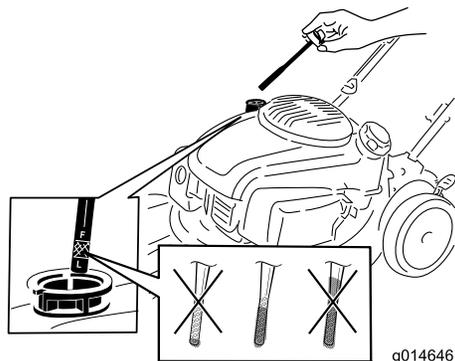

Figure 11
1. Remove the dipstick, wipe it clean, and insert it into the oil-filler neck, but **do not** screw it in (Figure 11).
2. Remove the dipstick and check the oil level (Figure 11). If the oil level is below the Add mark on the dipstick, **slowly** pour oil into the oil-fill tube to raise the oil level to the Full mark on the dipstick. **Do not overfill.** (Max. fill: 0.65 L (22 oz), type: 10W-30 or SAE 30 detergent oil with an API service classification of SJ or higher.)